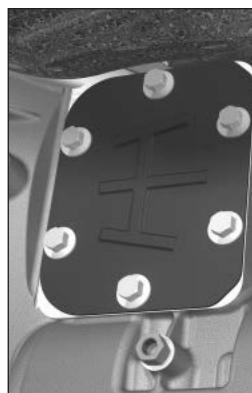
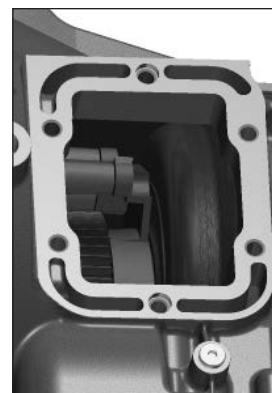

Figure 25
Figure 25a
- Remove the PTO aperture cover plate and gasket (**Fig. 25 and Fig. 25a**). **DO NOT** discard the gasket. It will be used when installing the adapter on the transmission.